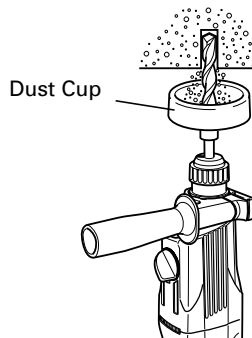
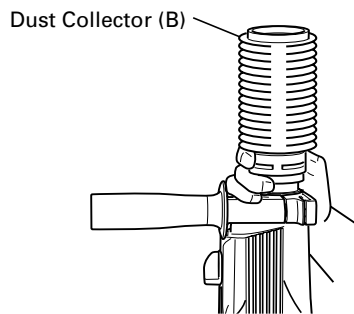

Fig. 3
Fig. 4
## 7. Installation of dust cup or dust collector (B) (Optional accessories) (Fig. 3, Fig. 4)
Use the dust cup by attaching to the drill bit as shown in Fig. 3.
- Installing dust collector (B)
When using dust collector (B), insert dust collector (B) from the tip of the bit by aligning it to the groove on the grip (Fig. 4)